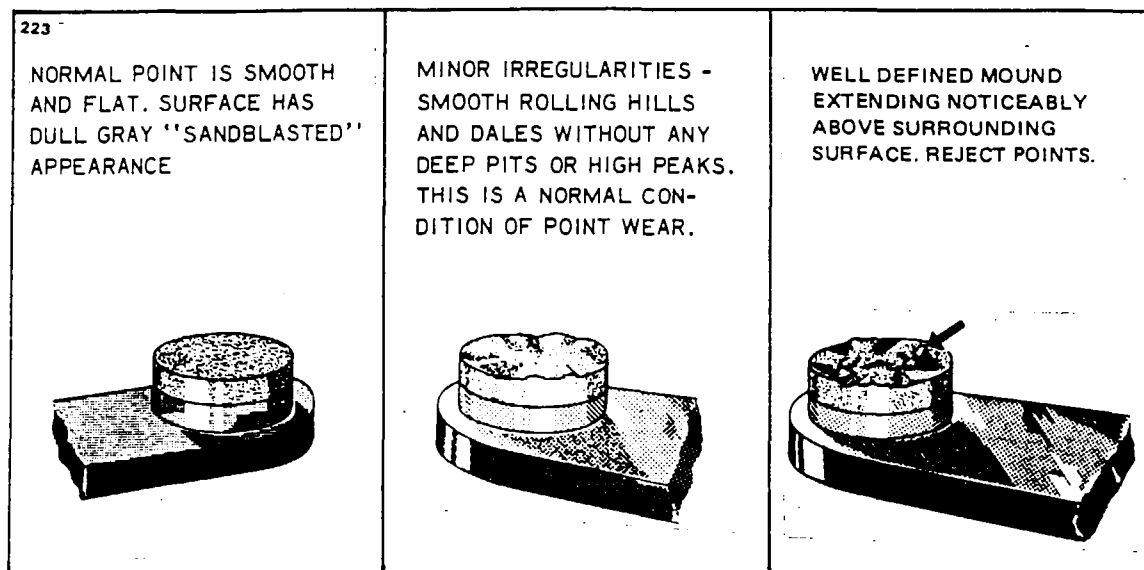

Figure 7A-8. Contact Points
e. Remove the breaker cover and harness securing screws and nuts, and separate cover from magneto housing. Check contact assemblies to see that cam follower is securely riveted to its spring. Examine the contact points for excessive wear or burning. Figure 7A-8 shows how the average contact point will look when surfaces are separated for inspection. Desired contact surfaces have a dull gray, sand-blasted (almost rough) or frosted appearance, over the area where electrical contact is made. This means that points are worn in and mated to each other, thereby providing the best possible electrical contact and highest efficiency of performance.
f. Minor irregularities or roughness of point surfaces are not harmful (Refer to Figure 7A-8 center). Neither are small pits or mounds, if not too pronounced. If there is a possibility of pit becoming deep enough to penetrate pad, Figure 7A-8, right, reject contact assembly.